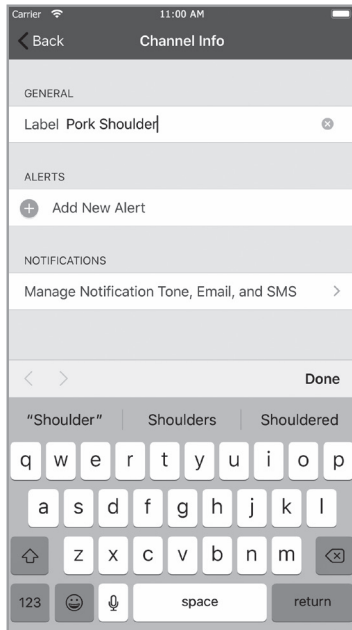

FIG 34
- The names of the two probe ports can be set according to what you’re cooking. Tapping on the probe port in the grey banner will allow you to change its name (**FIG 34**). This name will also be used in the various charts throughout the app.
- An alert – in the form of an app alert, an SMS text message, or an email – can be set to let you know when one of the meat probes are at a certain temp. Simply tap on the temperature shown for the probe in the gray banner, tapping “Add New Alert,” then “Set-up Alert” and set up your parameters (**FIG 34, 35**).